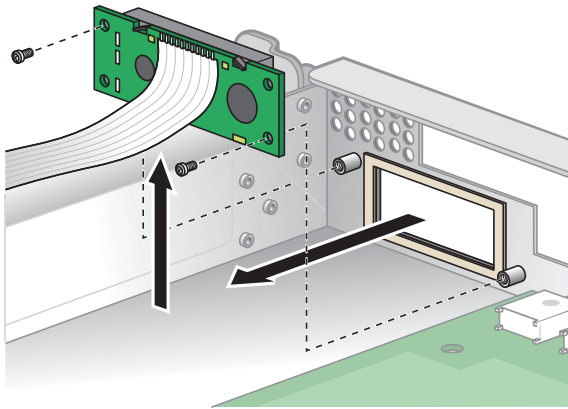

FIGURE 4-15 Removing the LCD
3. Remove the two screws securing the LCD to the front panel (see FIGURE 4-15).